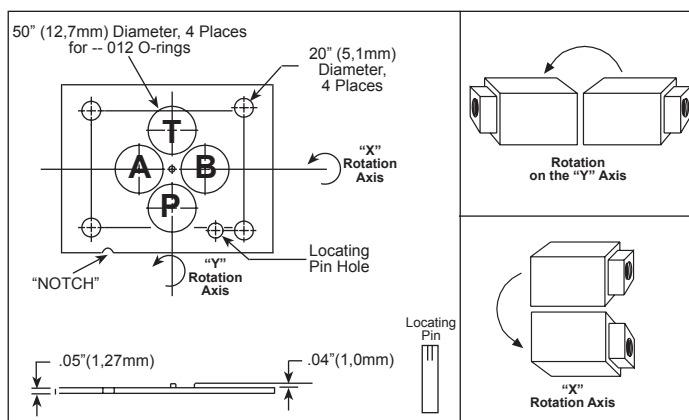

Figure 1. Body Rotation Reference
Many of Sun's ISO 03 (CETOP 3) sandwich bodies are designed for multi-functional use to permit maximum circuit flexibility. With the exception of a limited range of sandwich bodies, Sun ISO 03 (CETOP 3) sandwich bodies do not have a counterbore for installing O-ring seals. Instead, Sun uses a special seal plate with a raised "NIB" and a locating "NOTCH". Sun bodies incorporate oversize, symmetrical mounting holes to allow the bodies to be rotated about the "Y" axis and the "X" axis as shown in *Figure 1*.
1. Place the seal plate on the subplate mounting surface with the nib facing outward or away from the subplate and the locating pin hole on the seal plate aligned with the pin hole on the subplate mounting surface. At this point, the "NOTCH" in the seal plate should be adjacent to the "P" port of the valve interface. See *Figure 1*.